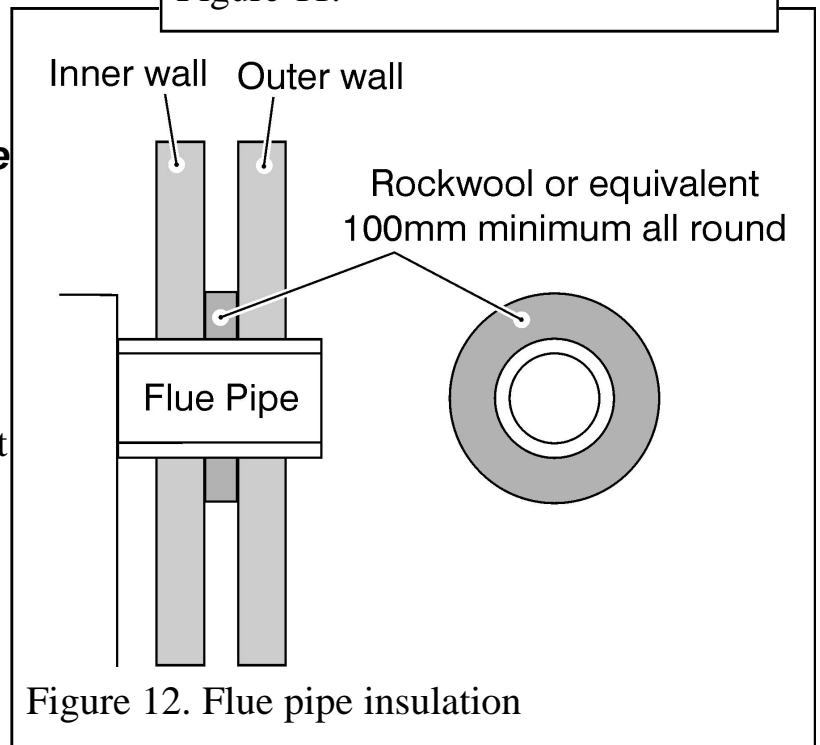

Figure 12. Flue pipe insulation
3. The cavity should be sealed where the flue tube hole has been cut. We recommend filling fully across the cavity with Rockwool or equivalent to at least 100mm around the opening (See figure 12)